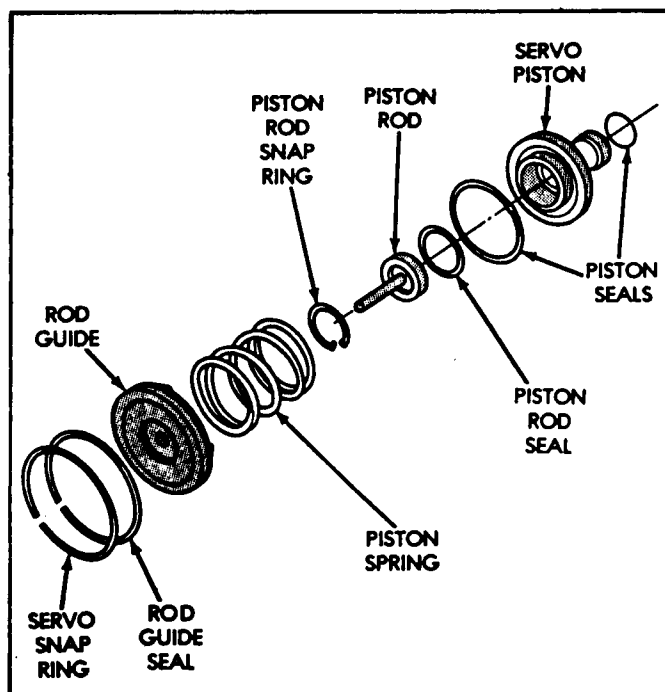

Figure 42
32. Install new seal rings (2), on front servo piston and lubricate with small amount of Trans-Jel (See Figure 42).
33. Install new "O" ring seal on the servo piston rod, and lubricate with small amount of Trans-Jel (See Figure 42).
34. Install servo piston rod into the front servo piston and install snap ring, as shown in Figure 42.